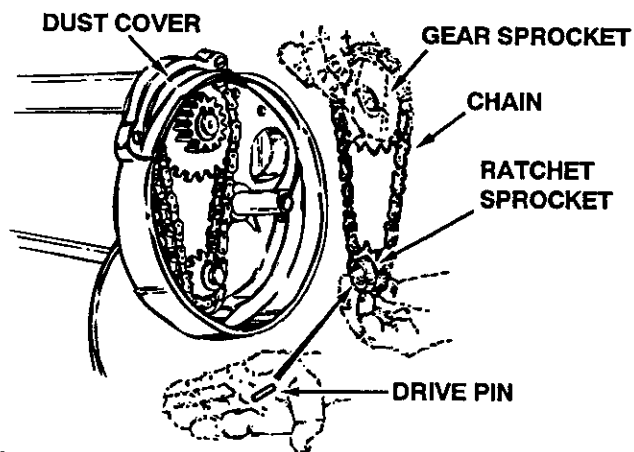

FIGURE 26
- Remove the chain and both sprockets, holding them in position and sliding them off both of the shafts. (Look for the drive pin, which may fall out of the brush shaft when the ratchet sprocket is removed.) See figure 26.